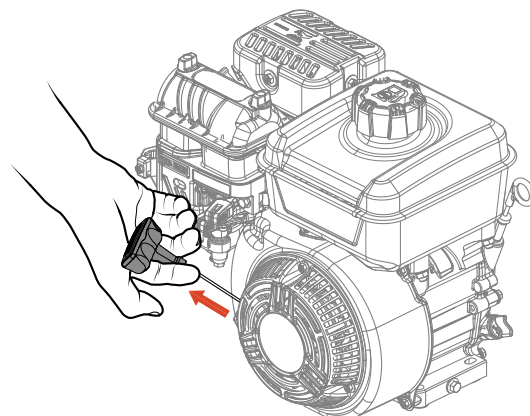

Figure 13. Starter Grip
- a. Grasp the starter grip until you feel some resistance. Then pull it briskly in the direction shown by the arrow in Figure 13.